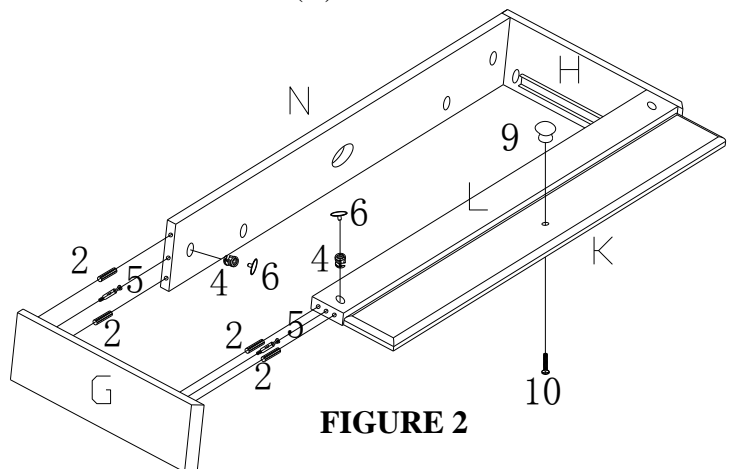

FIGURE 2
4. TIGHTEN SMALL MACHINE SCREW (10) THROUGH PREDRILLED HOLE ON FRONT PANEL (K) INTO WOOD KNOB (9). INSERT WOOD DOWELS (2), CAM-BOLTS (5) INTO PREDRILLED HOLES ON RIGHT SIDE PANEL (G) AND FIT INTO CORRESPONDING HOLES ON ENDS OF FRONT CROSS BRACE (L) AND BACK PANEL (N). INSERT CAM-LOCKS (4) INTO LARGE HOLES ON PARTS (L, N) WITH ARROW FACING TOWARDS HOLE. ROTATE CAM-LOCKS (4) CLOCKWISE TO SECURE CAM-BOLTS (5). PUSH COVERS (6) INTO CAM-LOCKS (4). ASSEMBLE LEFT SIDE PANEL (H) IN SAME MANNER. AS SHOWN IN FIGURE 2.